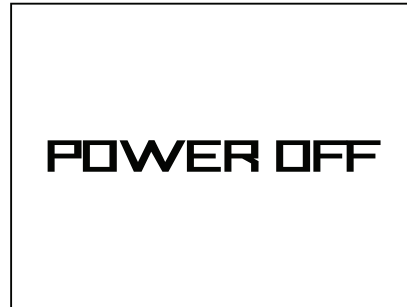

Fig. 2 Receiver Power Off
- When the receiver is on, press and hold the **Power Button** to turn the receiver off (Figure 2).